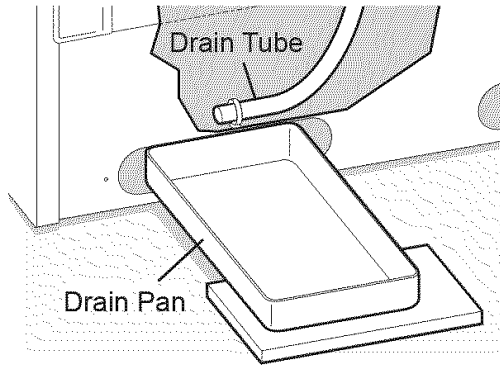

Figure 1
- **On upright models with a defrost drain** (Figure 1), remove drain plug on the inside floor of the freezer by pulling straight out. To access external drain tube on models with a base panel, first remove the 2 screws from the base panel. Locate the drain tube near the left center under the freezer. Place a shallow pan under the drain tube. Defrost water will drain out. Check pan occasionally so water does not overflow. A $\frac{1}{2}$ inch garden hose adapter can be used to drain the freezer directly into a floor drain. If your model is not equipped with an adapter, one can be purchased at most hardware stores. Replace the drain plug when defrosting and cleaning are completed. If the drain is left open, warm air may enter freezer.